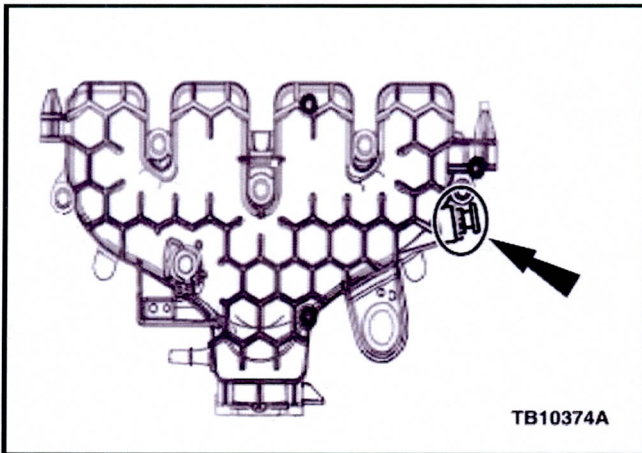

Figure 1 - Article 13-1-4
1. Inspect the left hand side of the intake manifold for a missing plug. Is the plug missing from the intake manifold? (Figure 1)